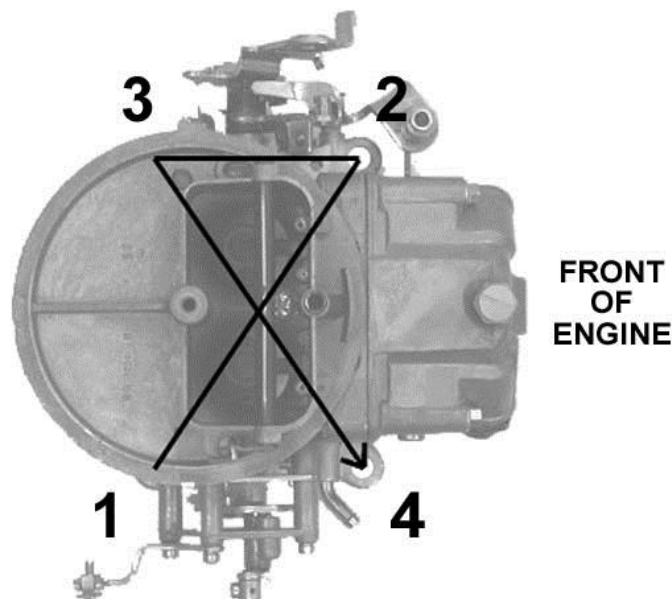

Figure 4 - Carburetor torque sequence
3. Place the carburetor on top of the flange gasket on the manifold. Install the hold down nuts and snug down progressively in a “crisscross” pattern (60-80 in./lbs.), as shown in Figure 4.